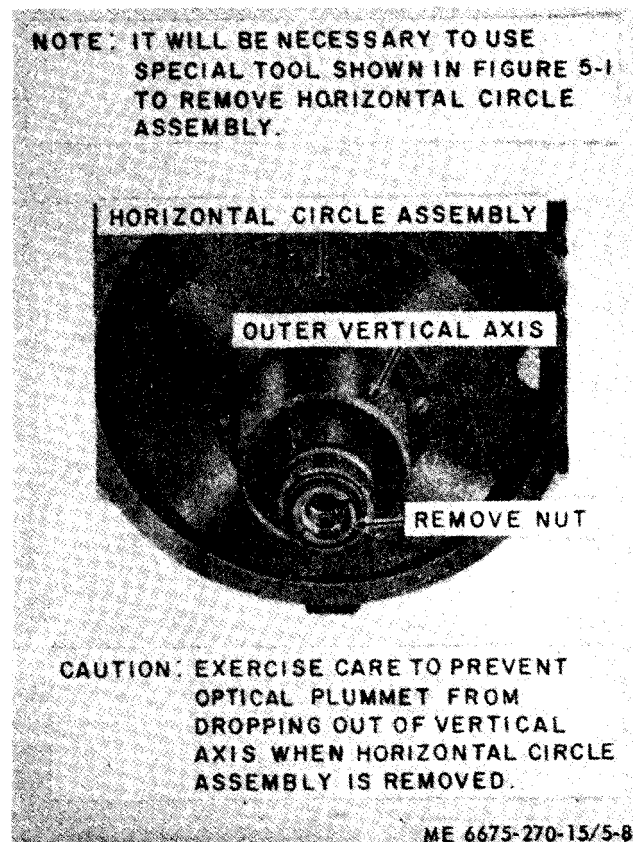

Figure 5-8. Horizontal circle assembly and outer vertical axis, removal and installation.
(1) Remove the horizontal circle housing (para 5-12).
(2) Refer to figure 5-8 and remove the horizontal circle assembly and outer vertical axis as a unit.
(1) Refer to figure 5-8 and install the horizontal circle assembly and outer vertical axis.
(2) Install the horizontal circle housing (para 5-12).